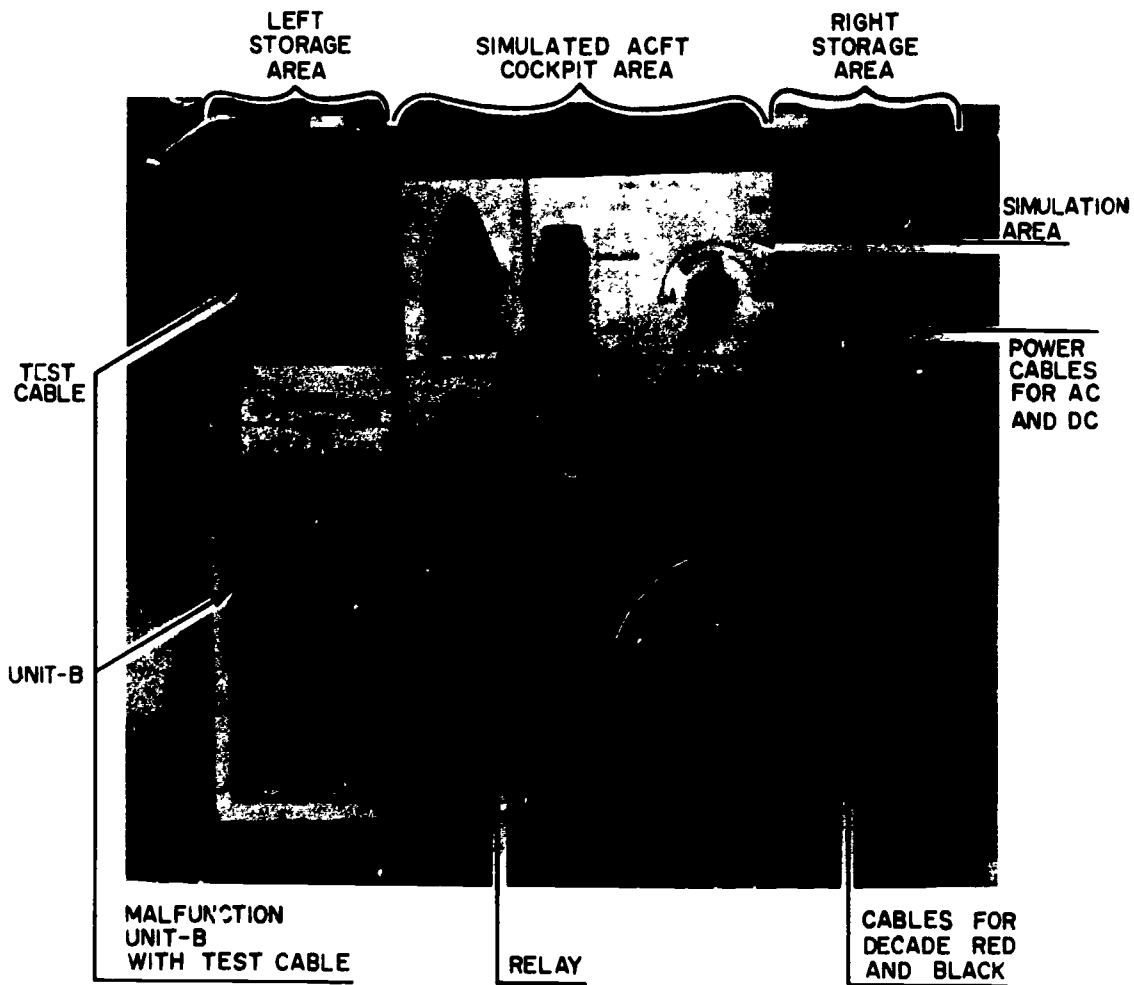

Figure 1.
2. Insure the AC and DC power cables are disconnected from the power bench outlets in front of you and place the cables in the unit's storage area. See figure 1.
4. Insure the test cable with the abnormal indication panel is disconnected from the simulated aircraft and stored on the left side of UNIT-B with switches to normal and with plastic covers installed on plugs. See figure 1.
6. Insure the red and black leads for the decade are stored, as in figure 1.